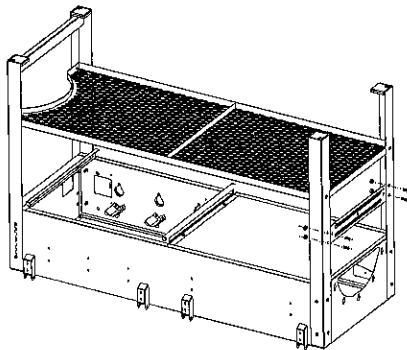

Fig. 5
*Locate:* Fire Box Support Brace, (4) M6x15 bolts, (4) M6 KEPS nuts
Refer to Fig. 5 and Place the Fire Box Support Brace BETWEEN the Legs on the RIGHT side of the Cabinet, so that the LEDGE is at the TOP and facing through the Legs. Fasten to BOTH legs with (2) M6x15 bolts and (2) M6 KEPS nuts on each Leg